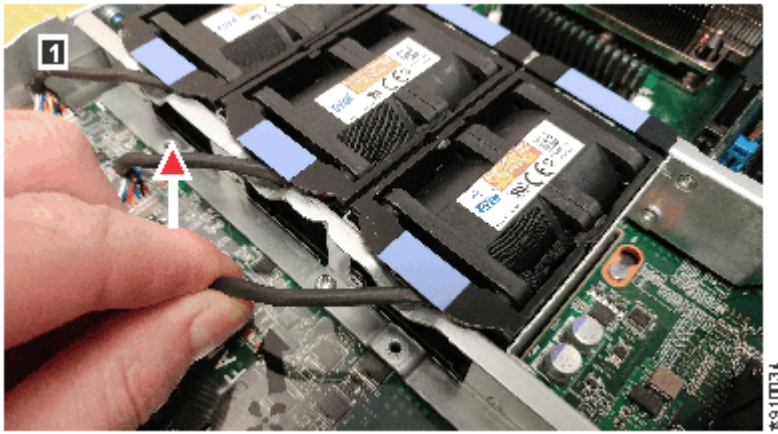

Figure 101. Removing the fan cable
6. Carefully disconnect the fan cable from the system board of the node canister, as shown in Figure 101 on page 143.